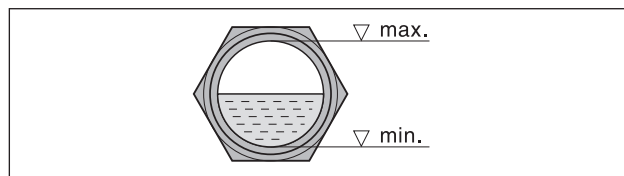

Fig. 5 Oil level
- b) After correcting the direction of rotation if necessary, start the motor again and stop it again after 2 minutes in order to top missing oil up to the upper edge of the sight glass (Fig. 5/I). This topping up at the filling point (Fig. 2/H) must be repeated until all the oil pipes have been filled completely. The filling point must not be open when the pump is running.